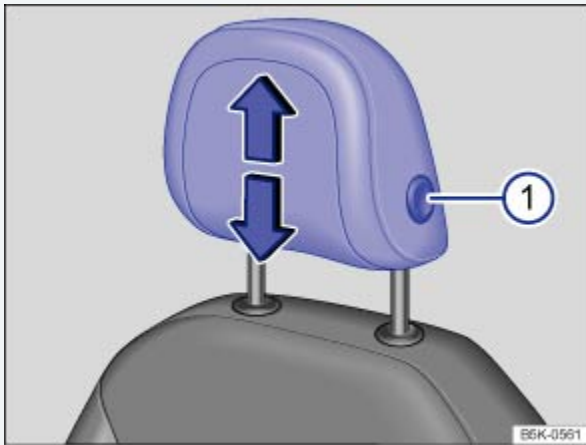
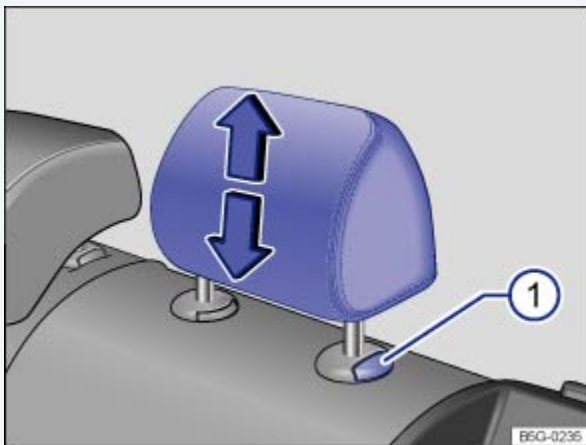

Fig. 44 Adjusting the front head restraints.
Fig. 45 Adjusting the rear head restraints.
- Pull the head restraint up in the direction of the arrow, or push it down while pressing the button ⇒ Fig. 44① or ⇒ Fig. 45① ⇒  .